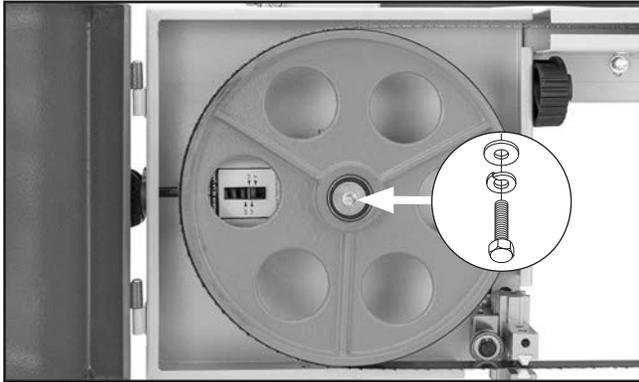

Figure 113. Location of blade wheel fasteners.
- Remove hex bolt, lock washer, and flat washer shown in **Figure 113** to remove blade wheel to be shimmed.